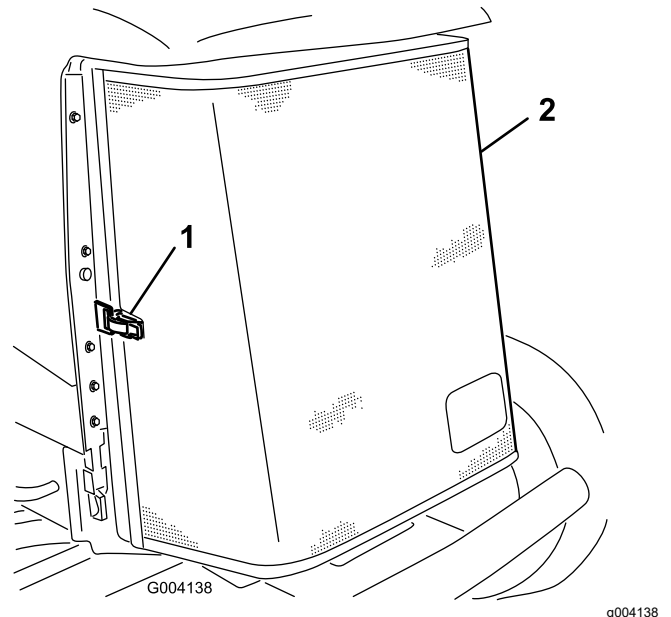

Figure 85
3. Unlatch the clamp and pivot open the rear screen (Figure 85).